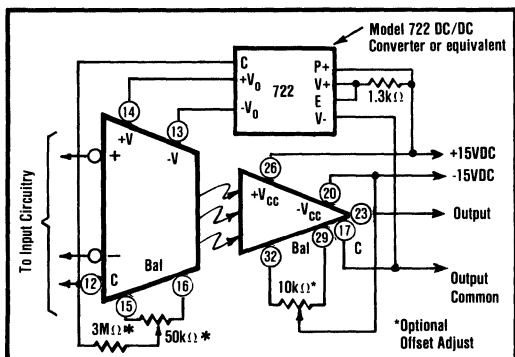

FIGURE 5. Power and Offset Adjust Connections.
The common-mode voltage is the voltage midway between the two inputs of the amplifier measured with respect to input common. It is the algebraic average of the voltage applied at the amplifiers' input terminals. In the circuit in Figure 5, $(V_+ + V_-) / 2 = V_{CM}$. (Note: Many applications involve a large system "common-mode voltage." Usually in such cases the term defined here as " V_{CM} " is negligible and the system "common-mode voltage" is applied to the amplifier as " V_{ISO} " in Figure 1.)
The power supply connections for the 3650 and 3652 are shown in Figure 5. When a DC-DC converter is used for isolated power it is placed in parallel with the isolation barrier of the amplifier. This can lower the isolation impedance and degrade the isolation-mode rejection of the overall circuit. Therefore, a high quality, low leakage DC-DC converter such as the Burr-Brown Model 722 should be used.
The offset nulling circuits are identical for the 3650 and 3652 and are shown in Figure 5. The offset adjust circuitry is optional and the units will meet the stated specifications with the BAL terminals unconnected. Provisions are available to null both the input and output stage offsets. If the amplifier is operated at a fixed gain, normally only one adjustment will be used; the output stage (10kΩ adjustment) for low gains and the input stage (50kΩ adjustment) for high gains (>10).
**The offset adjustment circuitry and power supply connections have been omitted for simplicity. Refer to Figure 5 for details.